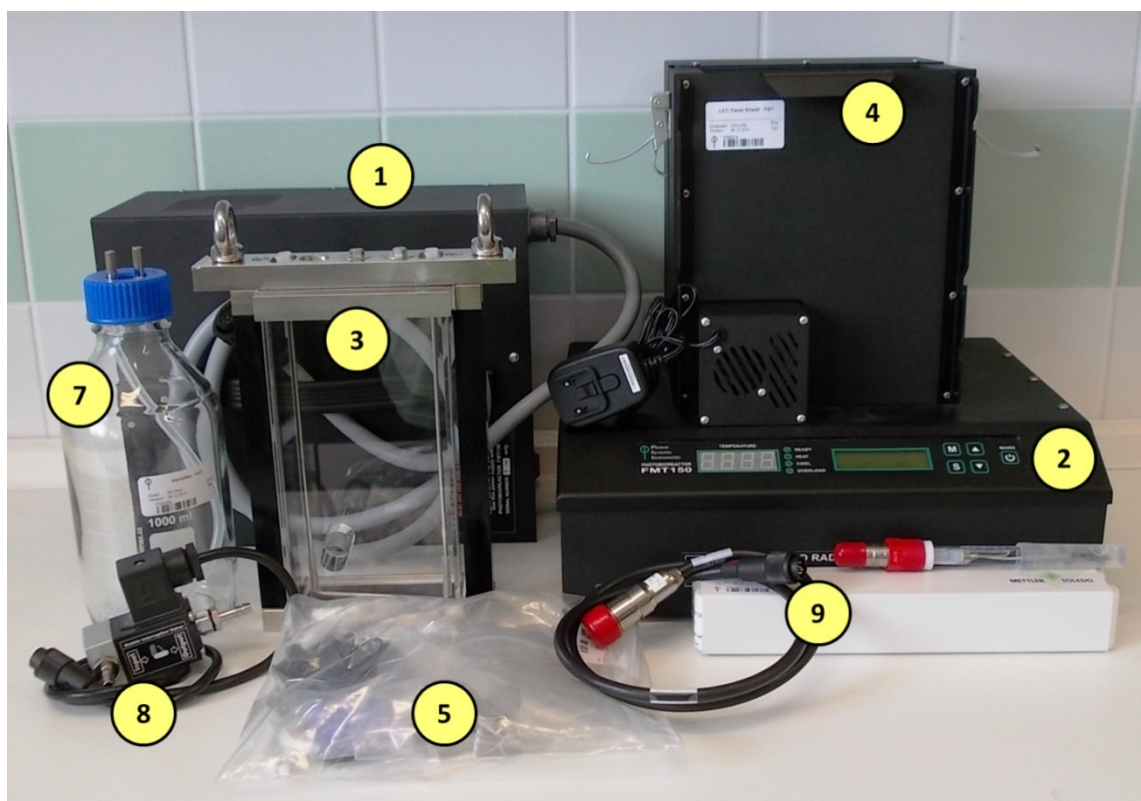

Fig. 5: Minimal configuration set of the Photobioreactor FMT150. Numbers correspond to component numbers as described on page 12.
Minimal required configuration that is recommended to be purchased for optimal operation of the Photobioreactor cultivation and monitoring system consists of **set of standard photobioreactor components** (as listed below) plus air pump with bubble interruption valve and **pH/temperature module**. Components that are part of minimal Photobioreactor FMT150 configuration are shown in Fig. 5. Optional components that are available as accessory modules and can be purchased together with Photobioreactor FMT150 are described in chapter 5
As shown on Fig. 5 on page 14 the FMT150 is shipped with:
8. **Bubble interruption valve with air pump** (air pump not shown on Fig. 5).